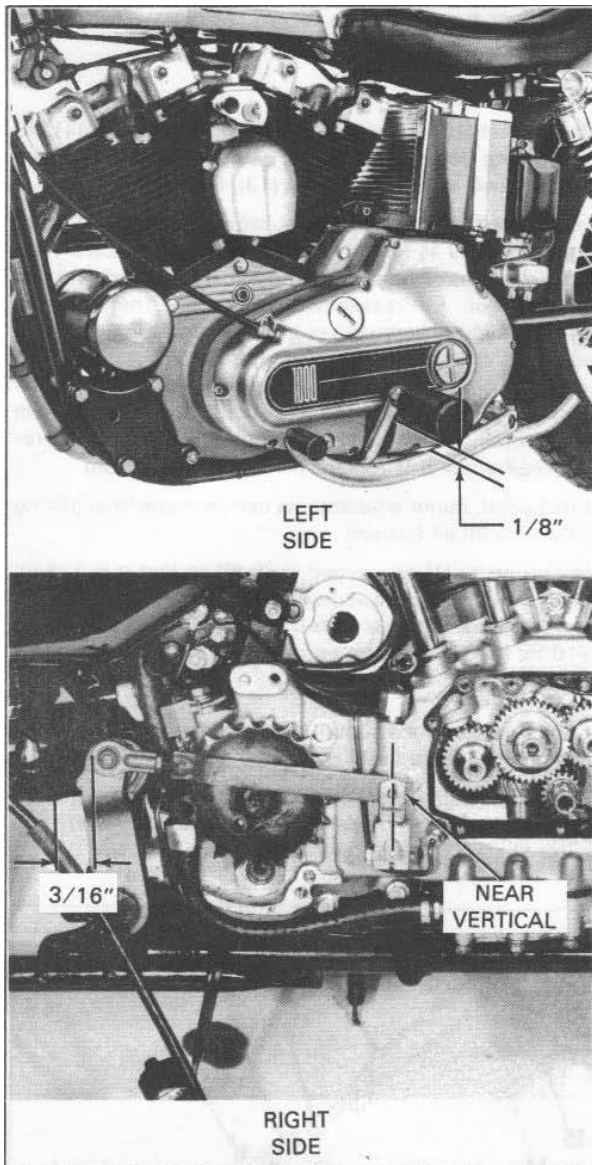

Figure 4-20. Shifter Linkage Mechanism - Adjustment - 1975 and 1976
Position pedal (1) on splined shaft (9) so that it is 1/8 in. from the foot peg while at the same time adjusting pivot end (7) either in or out on shifter link (6) until cross shaft (9) is 3/16 in. from swing arm as shown in Figure 4-20.
Remove gearcase cover by following procedure as outlined in paragraphs under "GEARCASE COVER AND TIMING GEARS" in Section 3 of this manual. In this procedure, it is necessary to perform only those steps needed to remove the cover. With gearcase cover removed, pull lever (13) from shifter shaft (16) by first removing screw (14) and lockwasher (15). However, before removing, place a mark on splines of both shifter shaft (16) and lever (13) to indicate original position for reassembly reference. Reposition lever (13) on shifter shaft (16) either a spline forward or a spline backward while at the same time repeating steps above, to achieve the correct dimensions as shown in Figure 4-20.